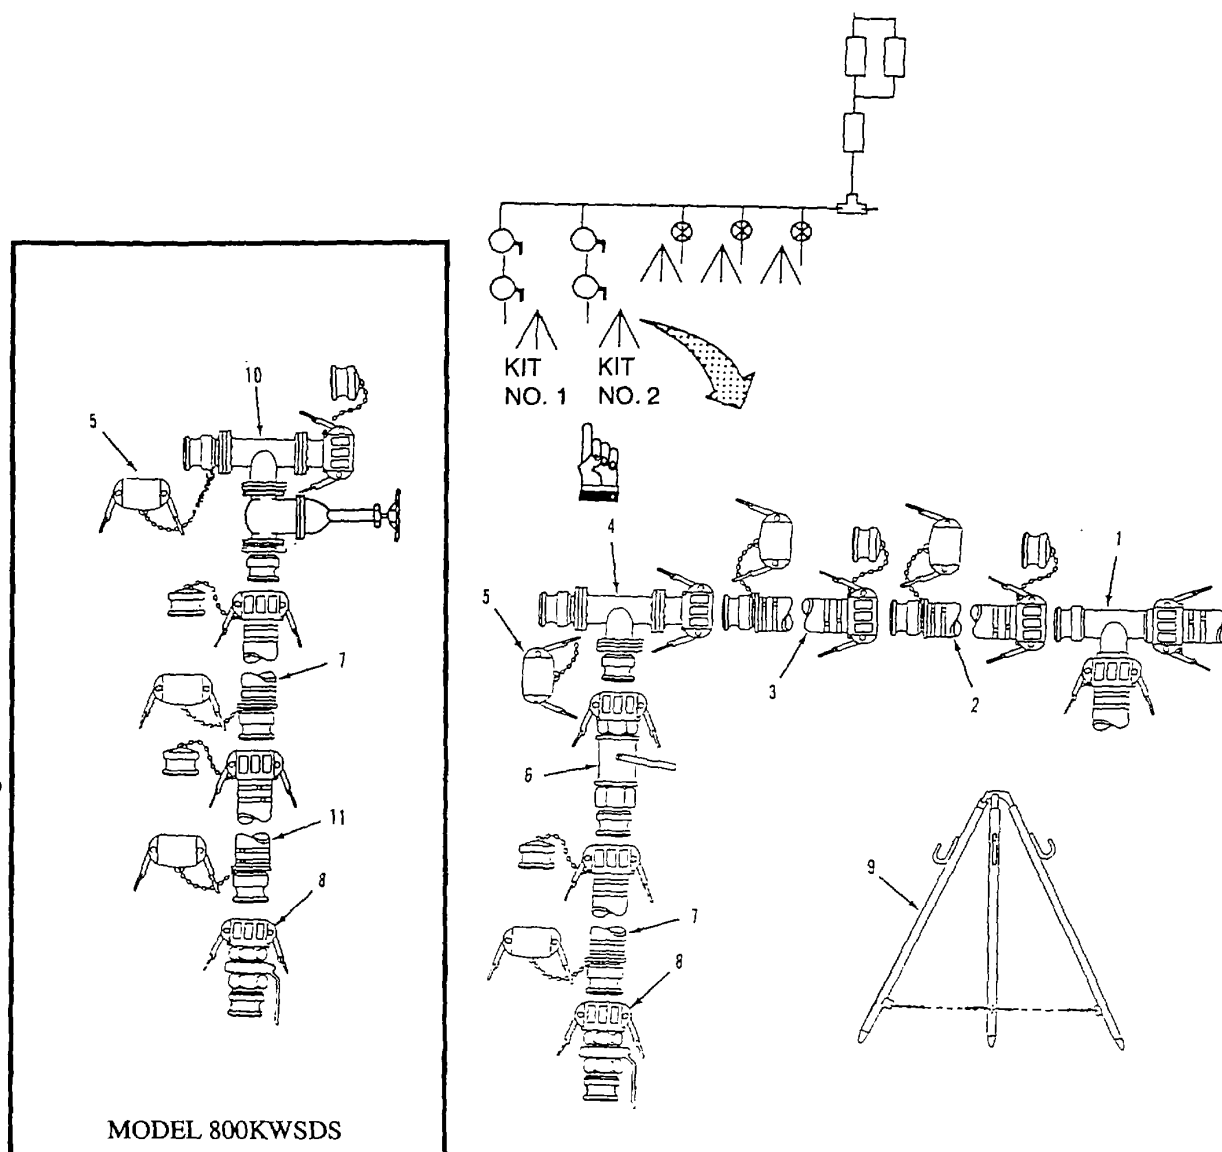

Figure 2-30. 4-Inch Hose Connection Kit Disassembly.
- (17) Disconnect 4 inch x 20 foot discharge hose (1) from tee (8).
- (18) Repeat steps 10 through 16 for hose connection kit no. 1.
- (19) Drain and allow components to dry.
- (20) Install caps and plugs on component couplings (para. 2-10c).
- (21) Roll all discharge hoses and secure with tape.
- f. Disassemble 4-Inch Hose Connection Kits Refer to figure 2-30.
- Do steps (2) through (5) and (10) through (14) below to disassemble a 4-inch hose connection kit that uses a quick acting valve (figure 2-30, item 6).
- Do steps (6) through (14) below to disassemble a 4-inch hose connection kit that uses the tee and gate valve assembly (figure 2-30, item 10) and an additional hose (item 11).
- (2) Disconnect butterfly valve (8) from 20 foot discharge hose (7).
- (3) Disconnect 20 foot discharge hose (7) from quick acting valve (6).
- (4) Disconnect quick acting valve (6) from tee (4).
- (5) Disconnect tee (4) from 20 foot discharge hose (3).
- (6) Disconnect butterfly valve (8) from 20 foot suction hose (11).
- (7) Disconnect 20 foot suction hose (11) from discharge hose (7).
- (8) Disconnect 20 foot discharge hose (7) from tee and gate valve assembly (10).
- (9) Disconnect tee and gate valve assembly (10) from discharge hose (3).
- (10) Disconnect two 20 foot discharge hoses (2 and 3) from tee (1).
- (11) Repeat applicable steps above to disassemble kit no. 1.